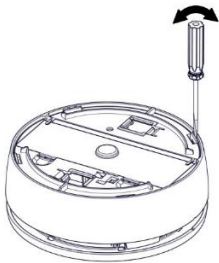

Figure 14
3. Using a screwdriver, press the 4 tabs and remove the detector housing (see Figure 14).